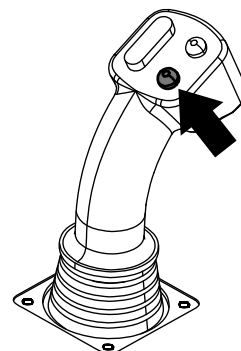
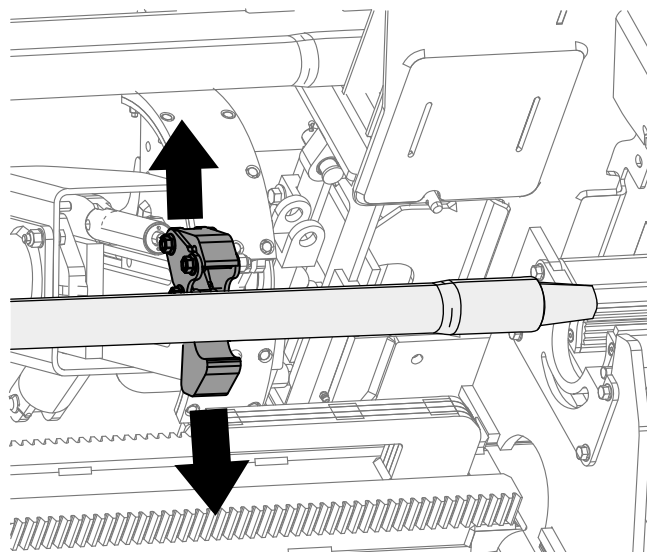

Figure 35
Figure 36
10. Hold the lower button on the joystick (Figure 35) to release the pipe (Figure 36) and release the button.